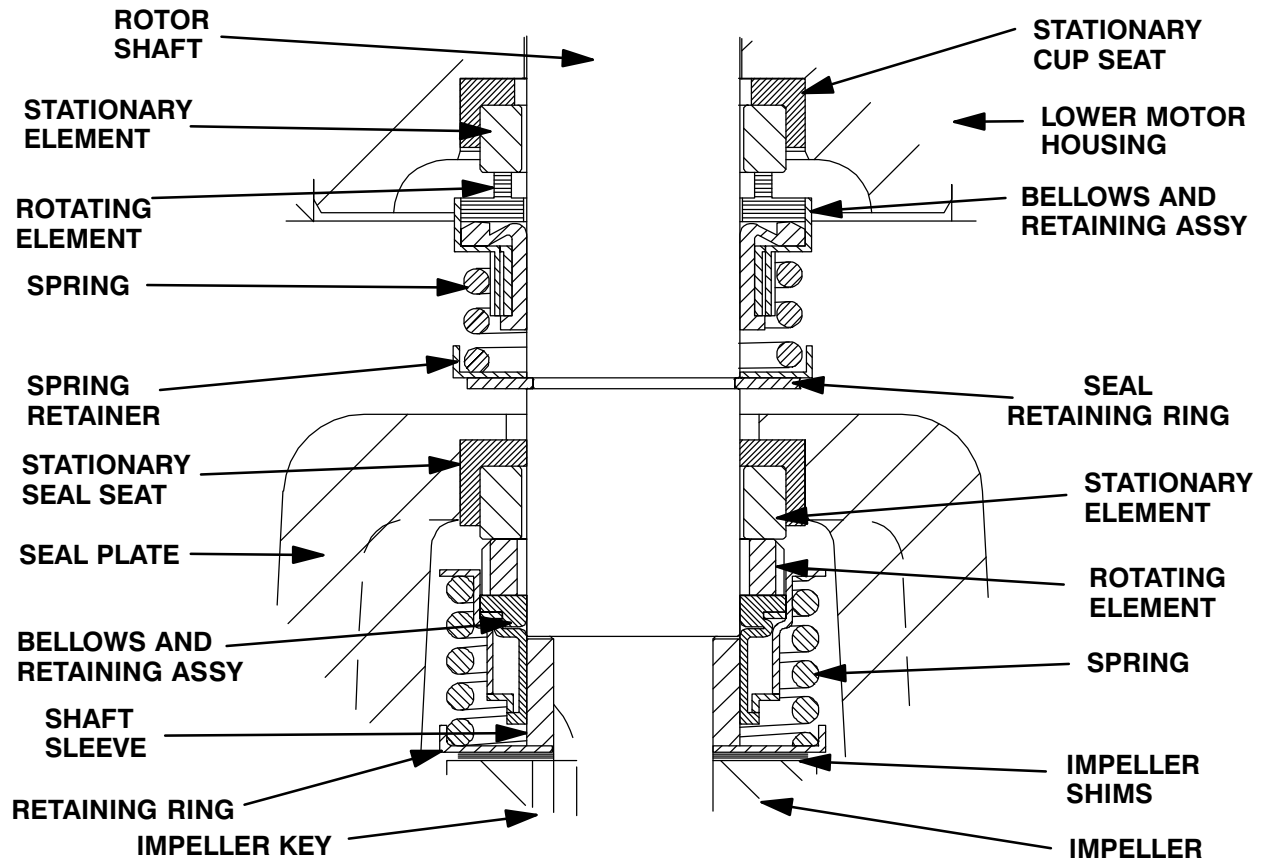

Figure C-3. Upper And Lower Seal Assemblies
Install the shaft seals as illustrated in Figure C-3.
Slide the seal spring over the shaft and bellows retainer, and install the spring holder (19). Install the seal retaining ring (18). See Figure C-3 for the proper order of seal assembly.
Slide the seal spring over the shaft and bellows retainer. See Figure C-3 for proper order of seal assembly.